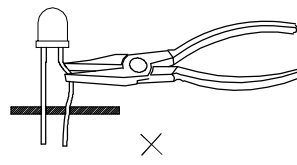

Fig. 7
5. During lead forming, use tools or jigs to hold the leads securely so that the bending force will not be transmitted to the LED lens and its internal structures. Do not perform lead forming once the component has been mounted onto the PCB. (Fig. 7)